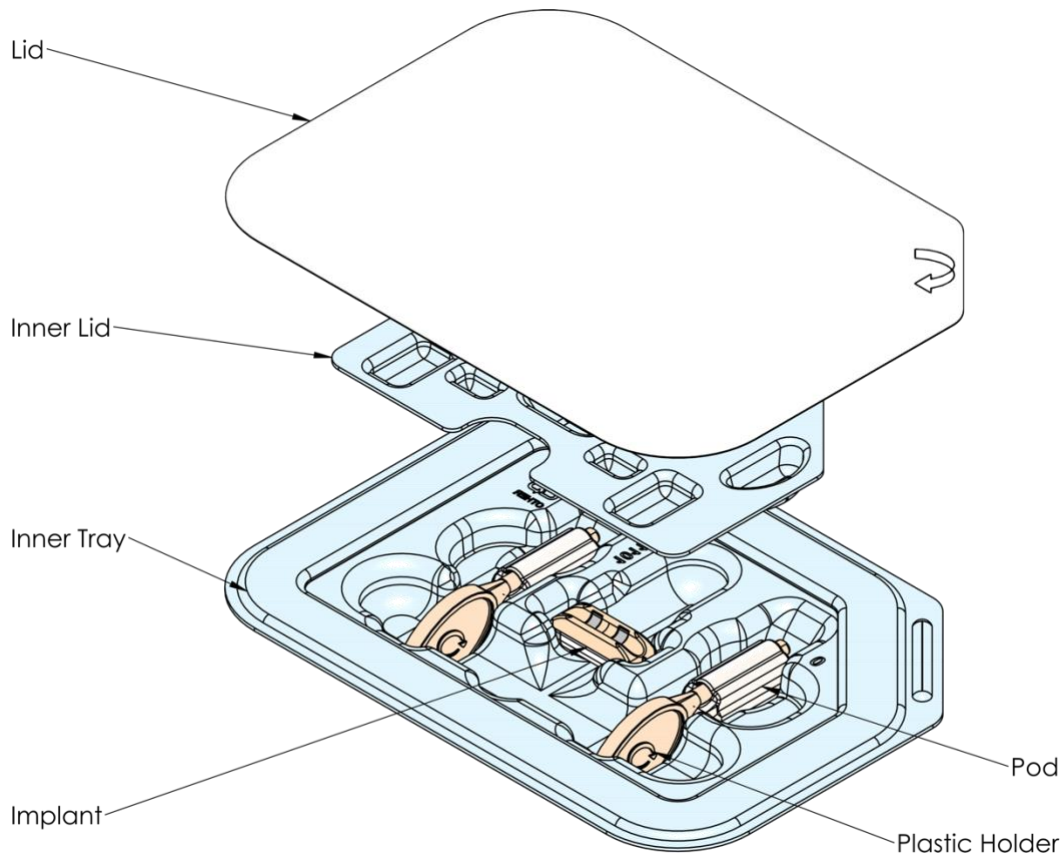

Figure 4 - Inner Tray Contents
The SetPoint System implantable components are supplied sterile, using an ethylene oxide (EO) process, and are only intended for single use. The Implant and two Pods (provided on plastic holders) are packaged in a sealed inner tray covered with an inner lid that prevents them from moving during transit (see **Figure 4**). The second Pod is provided for use only as a backup if the first Pod is damaged during deployment or while being sutured closed and is identical to the first Pod. The plastic holder is only intended for use during storage and must be discarded before the Pod is implanted. It is not meant for introduction into the surgical field.
5. Remove the inner lid and discard (see **Figure 4** on page 7).
4. Remove a Pod from its plastic holder and discard the plastic holder (see **Figure 4** on page 7).